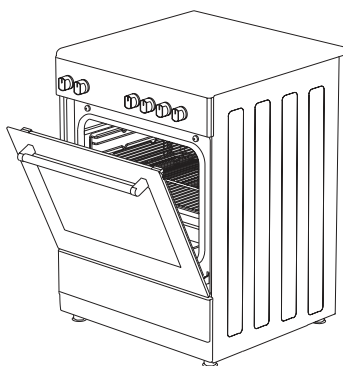

Figure 28
3. Place the safety panel under control panel by opening the oven front cover glass. (Figure 28)